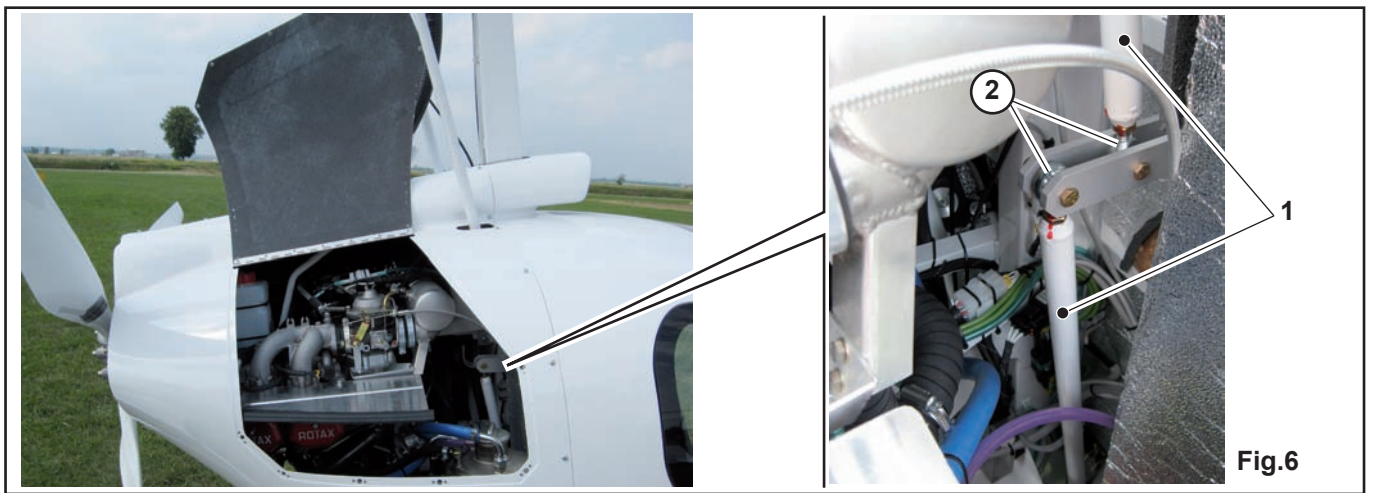

Fig.6
14. FREEDOM AND INTEGRITY OF CONTROL RODS (Fig. 6)